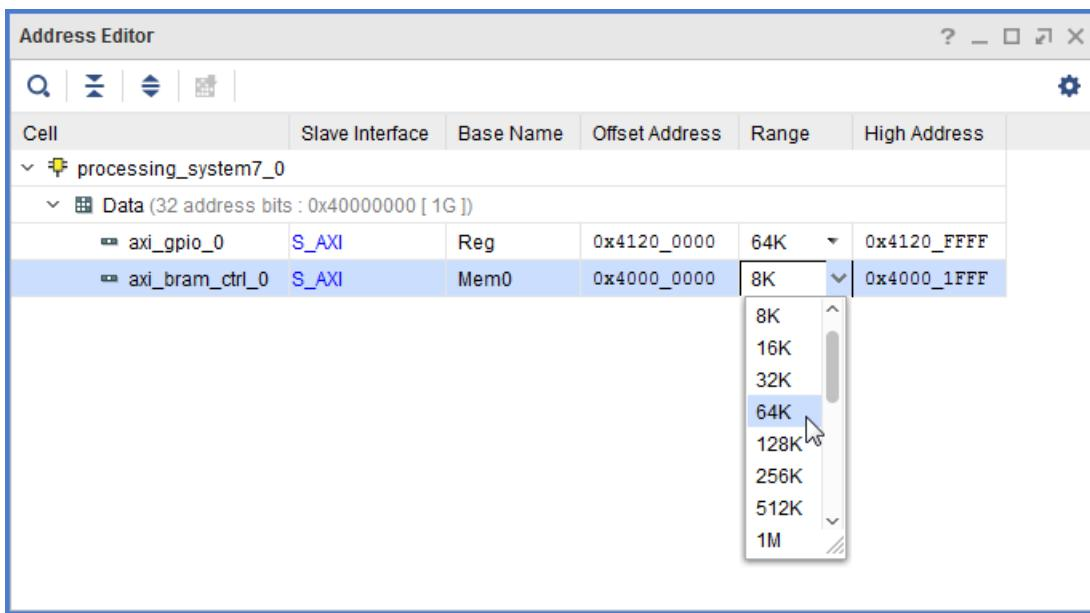

Figure 16: Change Range of axi_bram_ctrl to 64K
8. Change the range of the AXI BRAM Controller to **64K**, as shown in Figure 16.